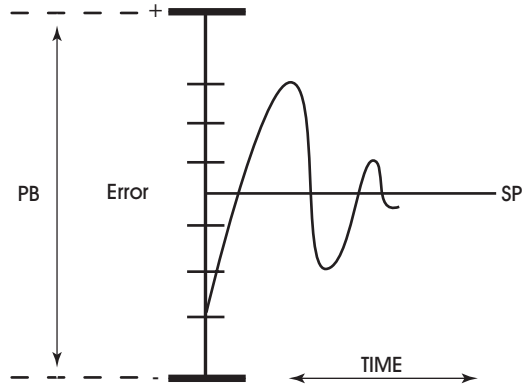

Figure 3-7: Proportional + Integral (PI) Control
The **(RP) Reset Period** property specifies the reset period (in seconds) over which the error averaging is accumulated. The longer **RP** is, the less effect it has on the control response. Figure 3-7 shows the response of a typical control loop when integral action is used in addition to proportional action (PI control). A value of zero disables the reset period.